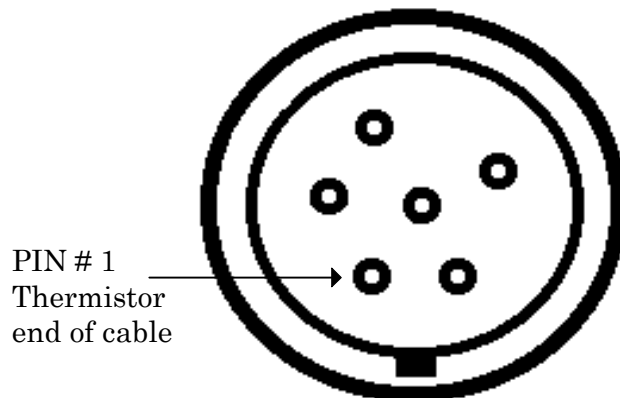

Figure 1. Thermistor cable pinout.
c. Connect multimeter between power meter V_{RF} center conductor (rear panel) and pin 1 of thermistor mount end of power meter interconnect cable (fig. 1).